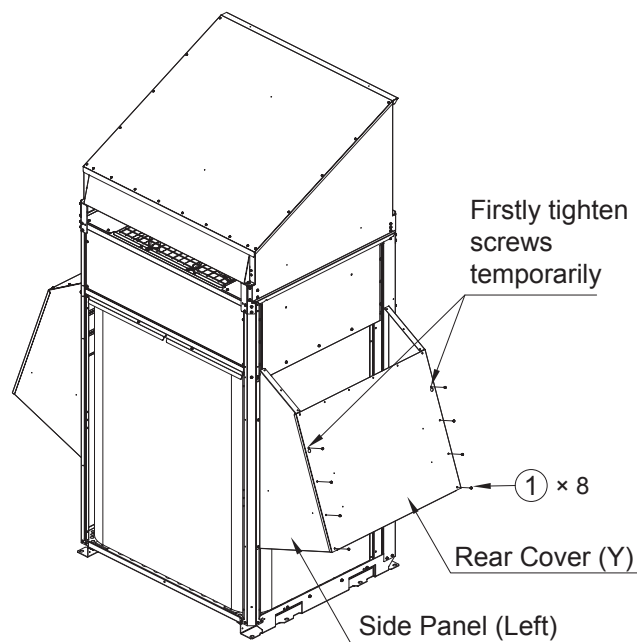

Fig. 2-8-18
Attach Rear Cover (Y) likely to hook to that screw and then tighten with 6 other screws (total 8 screws) securely. See Fig. 2-8-18.